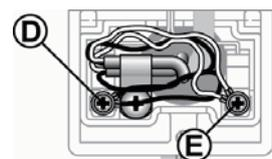

Fig.8
4. Loosen the screws on terminals (D) and (E). Connect the spade connectors of the controller cables to these terminals. Tighten the screws on terminals (D) and (E). Polarity is not important, either wire colour can be connected to either terminal (Fig.8).